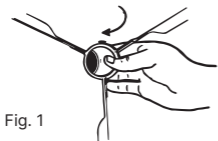

Fig. 1
- a. Rotate bearing ball sideways 90° (Fig. 1).